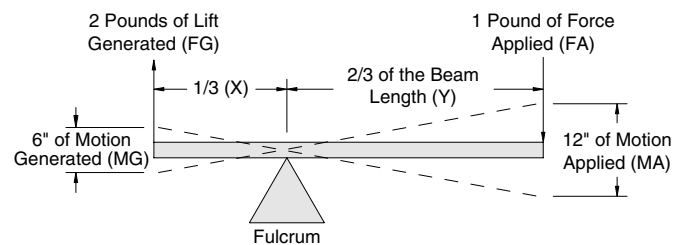

Figure 2-4 First Class Lever
Figure 2-4 shows a first class lever. In the illustration, the fulcrum is placed two-thirds from the right end of the beam. In placing the fulcrum off-center, a certain amount of mechanical advantage can be achieved. By placing 1 pound of force (FA) on the right end of the beam, 2 pounds of force (FG) is generated on the left end of the beam. The amount of travel is also transformed. In the illustration, 12 inches of motion (MA) on the right end of the beam translates to 6 inches of motion (MG) on the left end of the beam. To calculate both force and motion the formula is: